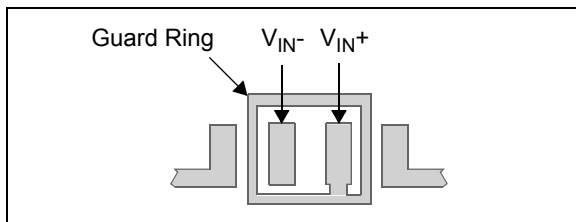

FIGURE 4-5: Example Guard Ring Layout.
The easiest way to reduce surface leakage is to use a guard ring around sensitive pins (or traces). The guard ring is biased at the same voltage as the sensitive pin. Figure 4-5 shows an example of this type of layout.
- Inverting Amplifiers (Figure 4-5) and Transimpedance Gain Amplifiers (convert current to voltage, such as photo detectors).